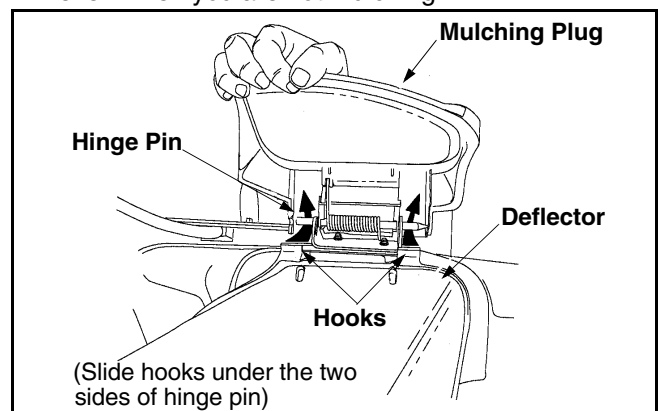

Figure 7
- Make sure the grass catcher is off the unit and the rear discharge door is closed. Refer to Figure 7.
- See Figure 7.